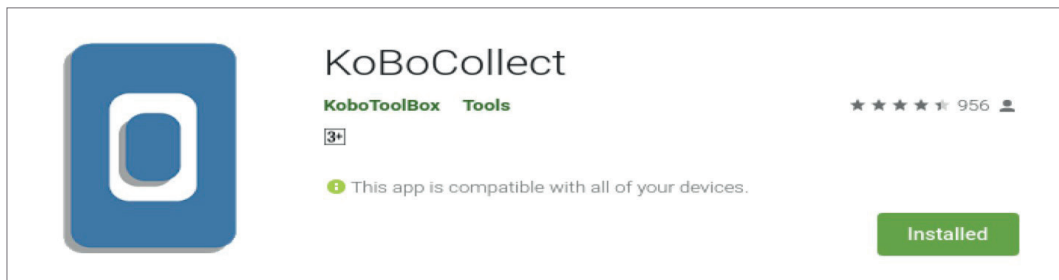

Figure 9: KoBoCollect application on Google Playstore
1. For android users; search for “KoBoCollect” under the Google Playstore/Galaxy Store. Download the application. (Figure 9)